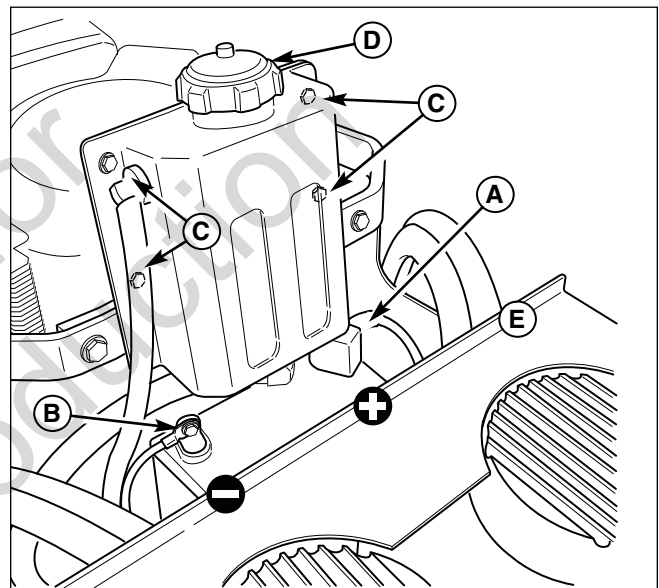

Figure 21. Battery Compartment
1. Locate the transmission oil filter (E, Figure 21) at the rear of the battery compartment under the seat.
1. Remove the hydraulic oil reservoir mounting hardware (C, Figure 21) and move the reservoir (D) forward to expose the battery.
2. Disconnect the cables from the battery, negative (black) cable first (B).
4. Reinstall the battery and reattach the battery cables, positive (red) cable first (A).